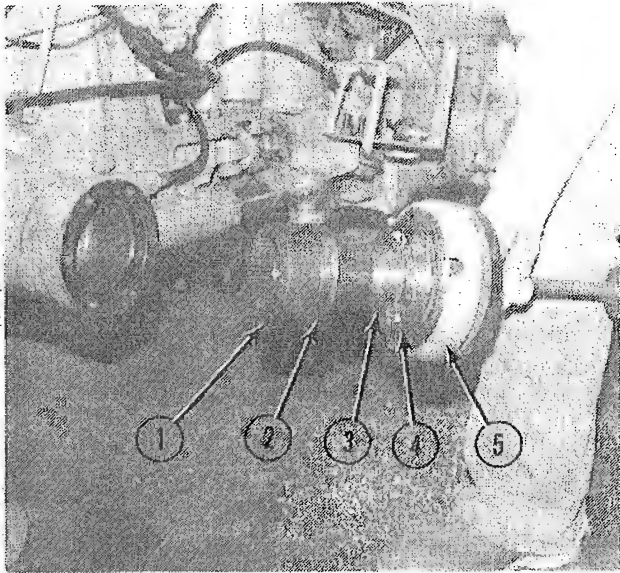

FIG. 3
Figure 3 identifies the key parts of the front stub axle sub-assembly.
- (1, Fig. 3) Final drive reduction hub.
- (2, Fig. 3) Inner bearing.
- (3, Fig. 3) Stub axle.
- (4, Fig. 3) Outer bearing.
- (5, Fig. 3) Bearing and seal retainer cup.